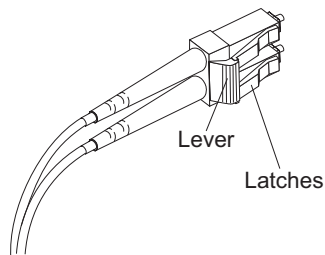

Figure 38. LC-LC fibre-channel cable lever and latches
1. On the end of the LC-LC cable that connects into the SFP module or host bus adapter, press down and hold the lever to release the latches, as shown in Figure 38.